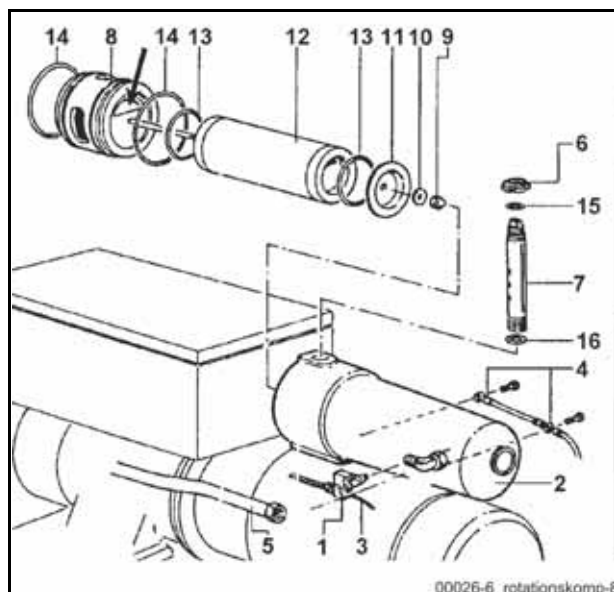

Fig. 354 Oil separator cartridge
- Disconnect the plug for the solenoid valve (1) on the separator housing (2) (Fig. 354) and loosen the air hose (3).
- Loosen the oil return valve (4) as described above.
- Remove the compressed air tube (5) from the separator housing.
- Remove the radial groove nut (6).